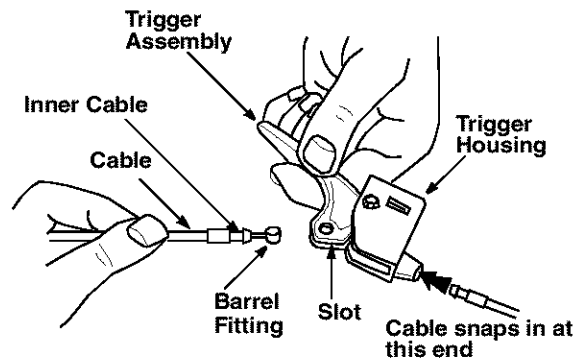

Figure 11
- Place the cable barrel fitting into the hole in the trigger. You can find the triggers and associated hardware in group H of the hardware pack. See Figure 11.
- Pull on the cable and rotate it around the bottom of the trigger, with the inner cable in the slot, until the cable end can be pushed into the trigger housing and snapped tight. See Figure 11.